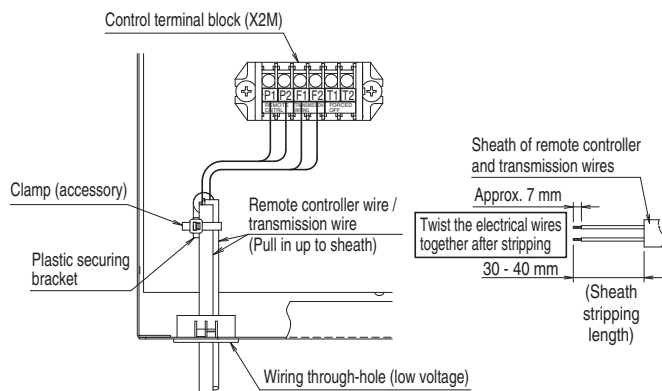

Fig. 18
- Make sure to connect the remote controller and transmission wiring to the control terminal block (X2M) correctly. (Refer to Fig. 18)